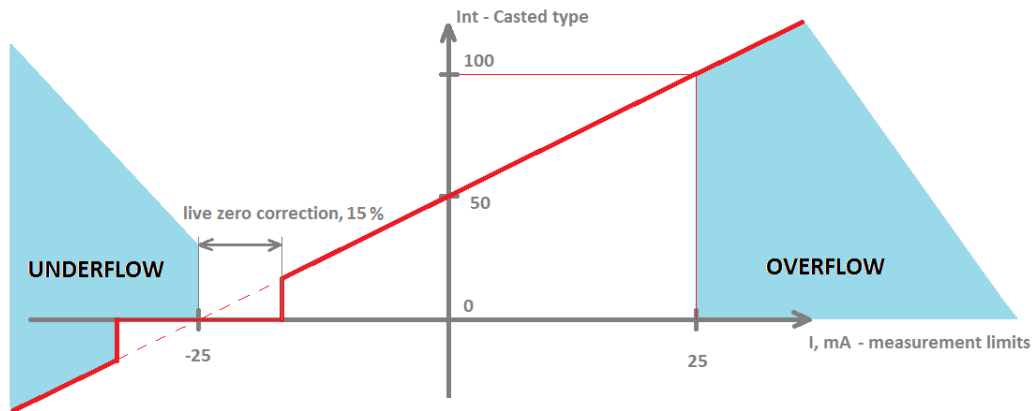

Fig. 1. Conversion graph from raw measurement to cast integer
6. Fig. 1. shows how raw measurement (current in this case) is converted to an integer type. Conversion is done by defining measurement limits (from -25mA to 25mA) and casting data range (from 0 to 100). Measurement limits define thresholds for overflow and underflow errors respectively; casting data range defines limits (from 0 to 100) that value should be between after recalculation. Such a recalculation can be used in applications that require measurements in relative units such as percentage.
A device can round measurements to lower conversion limit (in this case – to zero) if a measurement is near it: $\pm 15\%$ of measurement value (Fig. 1.). Live zero correction is a useful option for eliminating noise. As signals always have some noise level, such an option can compensate it to get a true zero value.